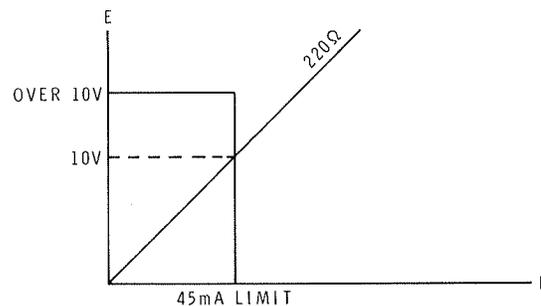

Figure 4
7. Turn the VOLTAGE control clockwise. Note that the voltage does not increase perceptibly. The supply is now current-limited, (See Figure 4).